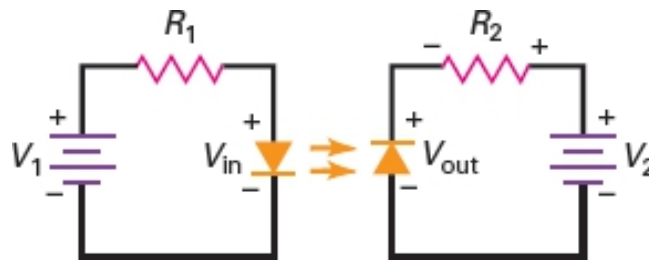

Figure-14 Optocoupler combines an LED and a photodiode
- An Optocoupler (also called an optoisolator) combines an LED and a photodiode in a single package. Figure-14 shows an Optocoupler.